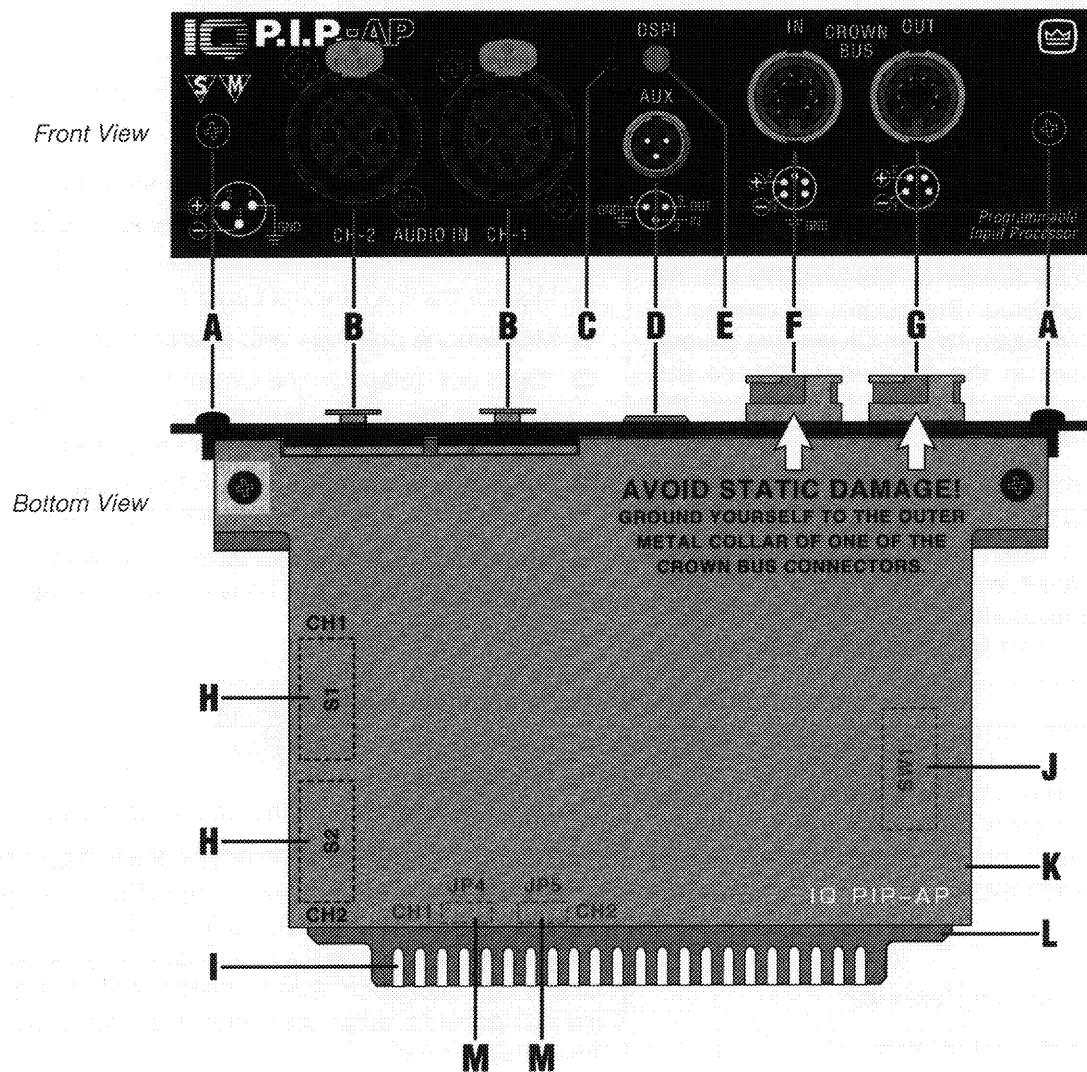

Fig. 2.1 The IQ-P.I.P.-AP Facilities
CAUTION: STATIC ELECTRICITY MAY DAMAGE THE IQ-P.I.P.-AP MODULE. Use caution when handling the unit. Carefully ground yourself **BEFORE** touching the IQ-P.I.P. module. For added safety, touch the outer metal collar of either Crown Bus connector (see Figure 2.1). This should safely discharge any static electricity through the ground plane of the module. Avoid unnecessarily touching the components, edge connector or solder pads on the circuit boards.
6. If the *IQ-P.I.P.-AP* is being installed into a *Macro-Tech 5000VZ*, move the jumpers JP4 and JP5 (Figure 2.1) on the digital circuit board to the "OUT" position. They should both be set to the "IN" position for all other amplifiers.